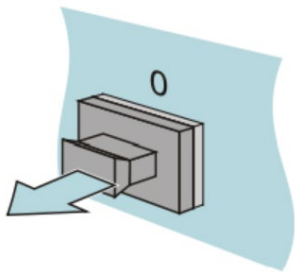

Figure 27: Removing the Protection Cap
- ☐ Remove the protection cap from the SFP transceiver. See Figure 27.